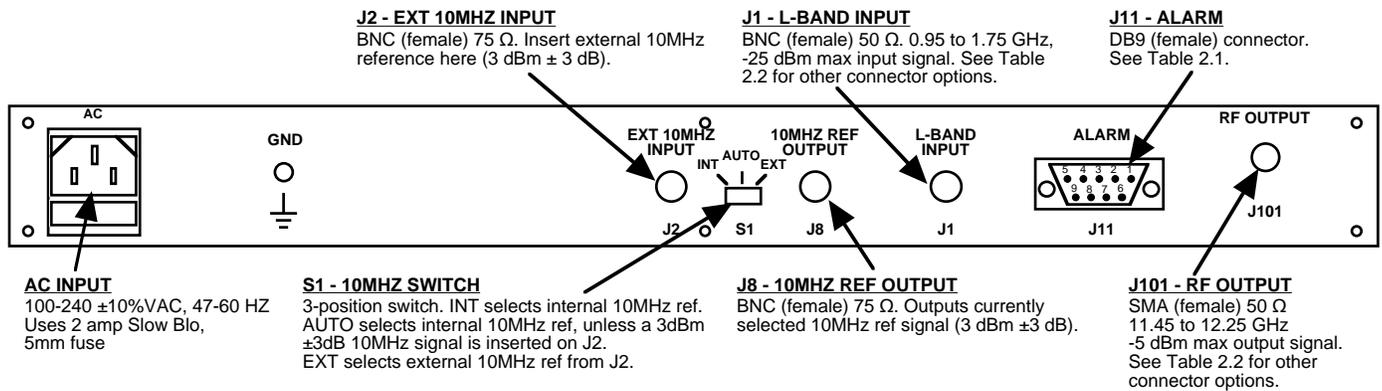

FIGURE 2.1 2115-114 Rear Panel I/O's
2.2 Rear Panel Input/Output Signals - Figure 2.1 shows the input and output connectors on the rear panel.
1. Connect a -40 dBm to -25 dBm signal to L-BAND INPUT, J1 (Figure 2.1).
6. Select either INT (for internal 10MHz ref), AUTO (for internal 10MHz ref UNLESS a external 10MHz, +3 dBm signal is connected to J2), or EXT (for external 10MHz, +3 dBm ref that is inserted at J2) on rear panel switch S1 (Figure 2.1).
8. Check that a 10MHz, +3 dBm \pm 3 dB signal is present at the 10MHZ REF OUTPUT (J8) (Figure 2.1).